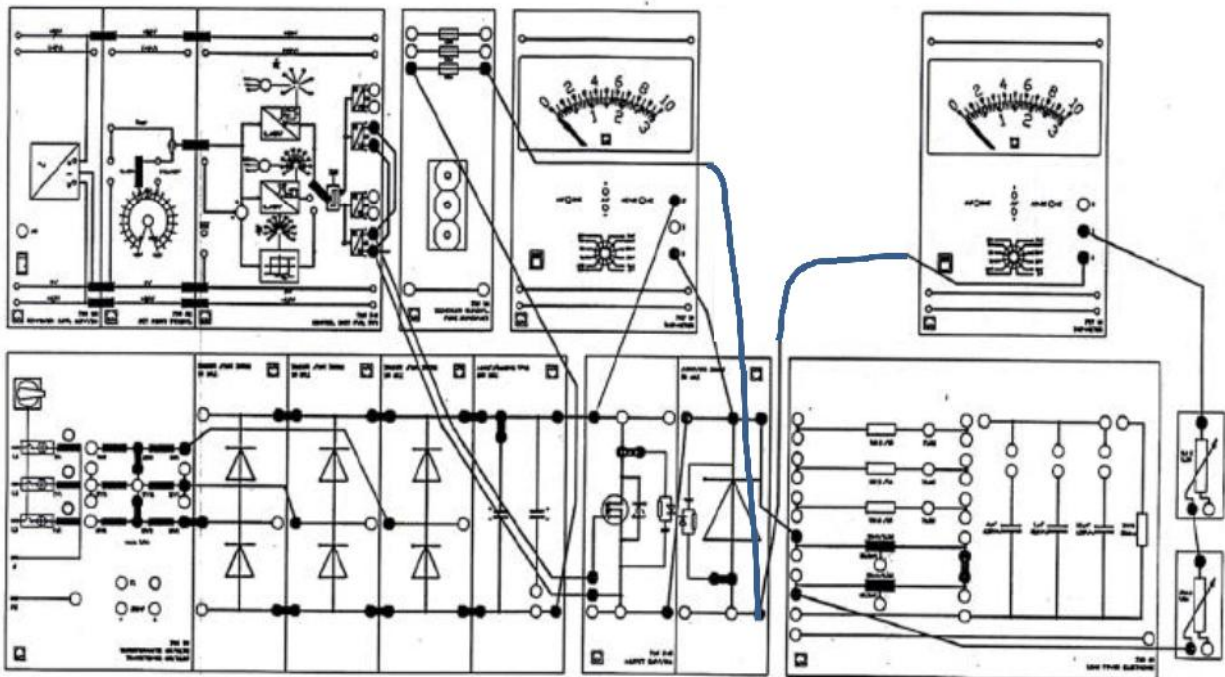

**Figure 5.5 The equivalent power circuit of a Step-down converter implementing a MOSFET and a diode**
- 1) Replace the Thyristor and the turn-off circuit (in the previous Figure; 5.4) with a MOSFET and Diode module having the same space requirement, as shown in the equivalent power circuit of Figure 5.5. Make sure that the diode polarity is correct. It must function as a free-wheeling diode and it must be ensured that it does not short-circuit the positive load voltage. With the MOSFET and diode, the RCD circuit must be connected by means of the bridging plug.